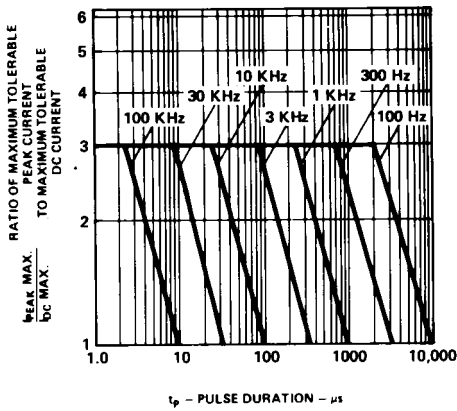

Figure 2. Maximum Tolerable Peak Current vs. Pulse Duration. ( $I_{DC}$  MAX as per MAX Ratings).
- See Figure 2 to establish pulsed operating conditions.